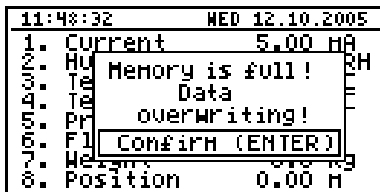

Fig. 7.16. Warning in "cyclic" recording mode
- after filling all the available memory with recorded measurement results, the measurement results recorded next will be written from the starting address in the memory, overwriting previously recorded data. During the first overwriting operation a warning message (Fig. 7.16) will be displayed; this message must be confirmed with the [ENTER] key. This warning shall be repeated when the unit is switched on. Instead of **"Time left"** parameter in the **"Device information"** menu the display will show the **"Data overwriting"** message.